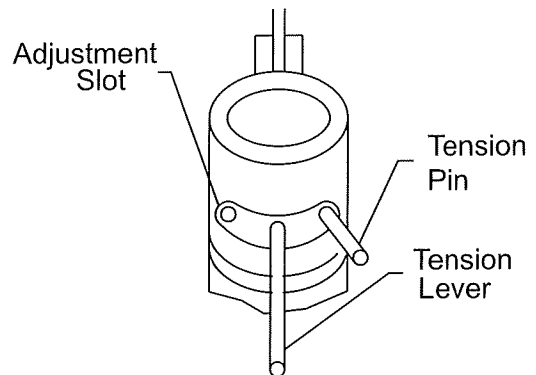

FIGURE 2
- ( C ) Rotate Tension Lever to the left and insert Tension Pin loosley in hole to the right of Tension Lever as shown in figure 2.